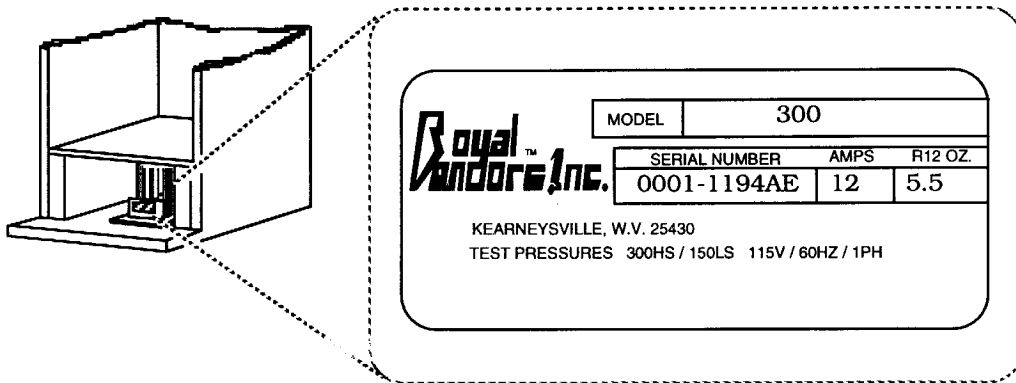

fig.1b
**REFRIGERATION IDENTIFICATION** - Your vendor's refrigeration system can be identified by noting the refrigeration serial plate which is mounted to the base plate of your refrigeration system (fig.1b). This also gives information which is necessary when ordering a replacement refrigeration unit, or when calling for service help concerning one.